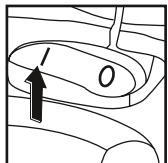

Fig. 7
7. Turn ON the motor setting the switch in the '1' (ON) position. (Fig. 7)